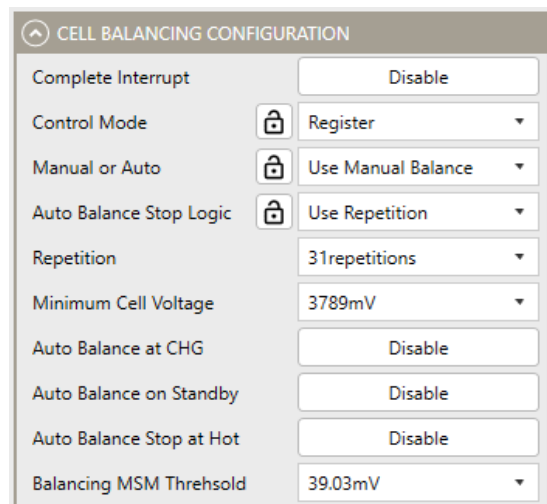

Figure 23: Cell-Balancing Configuration
15. Figure 23 shows the Cell-Balancing Configuration settings in the GUI.